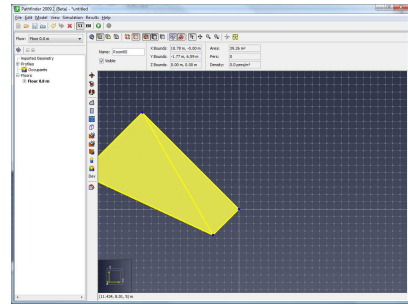

Figure 138. Rotated object
- The third defines a second vector extending from the rotation base (Figure 138). The rotation angle is the angle between these two vectors.